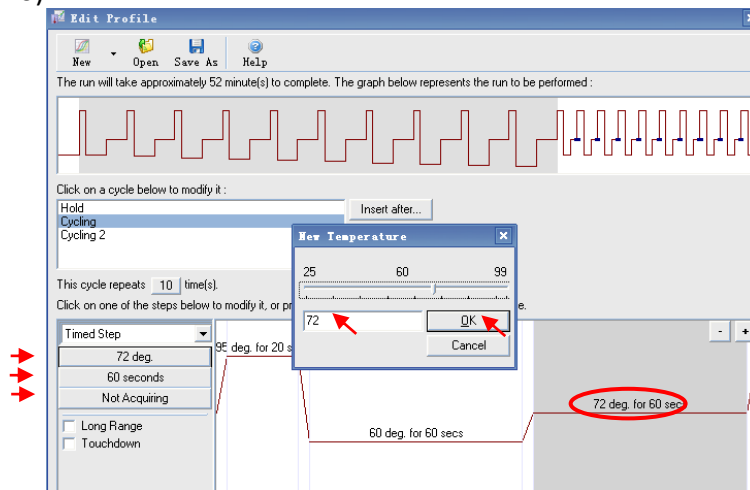

Figure 10
e. Choose the third step of cycling, set the temperature as 72 degrees, set the time as 60 seconds and choose “not acquiring”. Click on “OK” to complete the set up of the cycling stage (Figure 10).